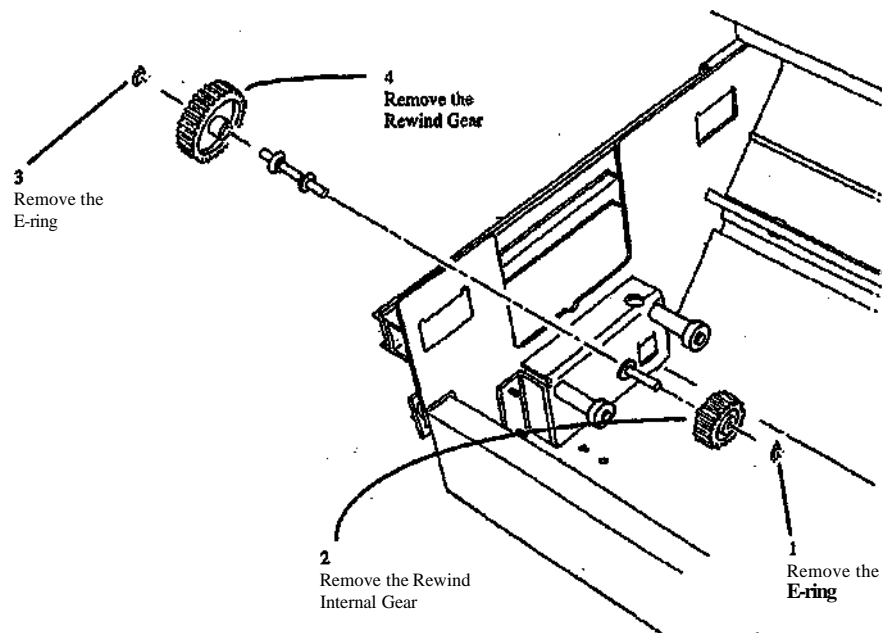

Figure 1. Removing the Rewind Gears
3. (Figure 1): Remove the Rewind Gear and the Rewind Internal Gear.